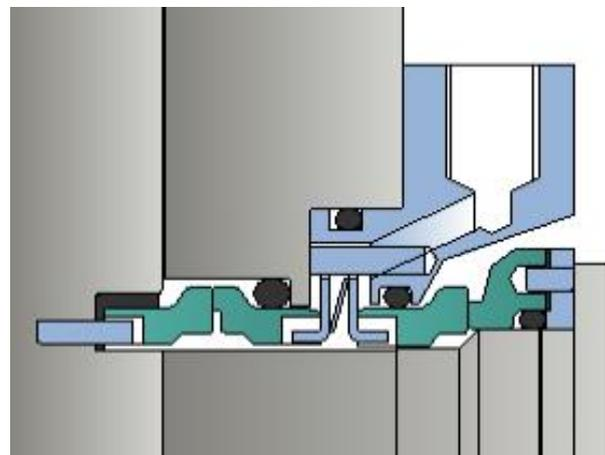

Figure 12 - Double mechanical seal (Size 4-8)
Double seals code D are run with a fluid between the primary and secondary mechanical seals to form a barrier between the pump and the atmosphere. (Figure 12)
- The system can be installed as in figure 12, but must be capable of withstanding the